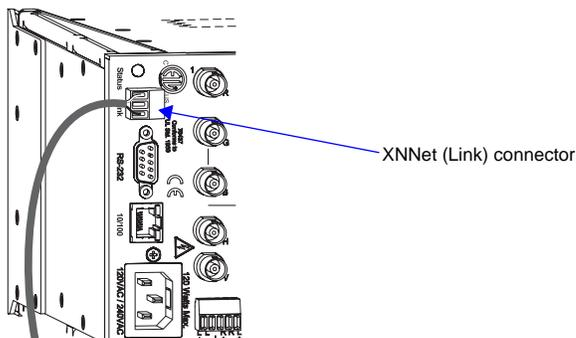

FIG. 8 Insert wires into XNNet (Link) connector
3. Insert XNNet link cable wires according to Fig. 8 (either wire can be inserted in either outside slot).